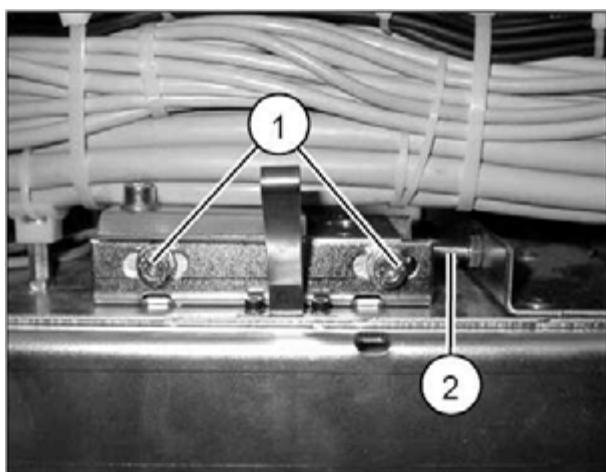
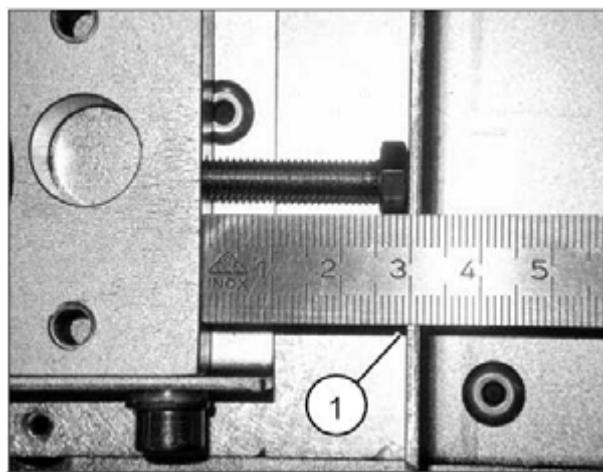

Fig. 13: Screws
Fig. 14: Reference value
- To readjust, loosen the 4 fastening screws (1/Fig. 13 / p. 48) (two screws are not visible) and adjust with the adjustment screw (\(2/Fig. 13 / p. 48\)); reference value for adjustment: 30 mm (\(1/Fig. 14 / p. 48\)).
- Retighten the 4 mounting screws (1/Fig. 13 / p. 48).